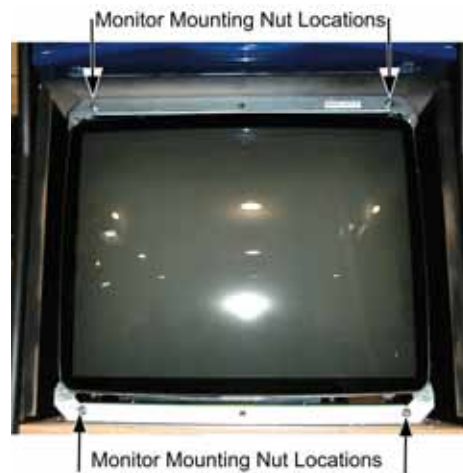

Figure 16. Monitor Mounting Nut Locations
5. Remove the four (4) 1/4-20 monitor mounting nuts, as shown in Figure 16.